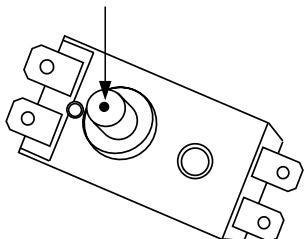

Fig. 9
- Water can be drained through a composite relief valve (Fig. 9) (unscrew the composite relief valve drain knob screw and set the drain knob to the upper position, at that hot water tap must be open, and cold water supply valve must be closed).